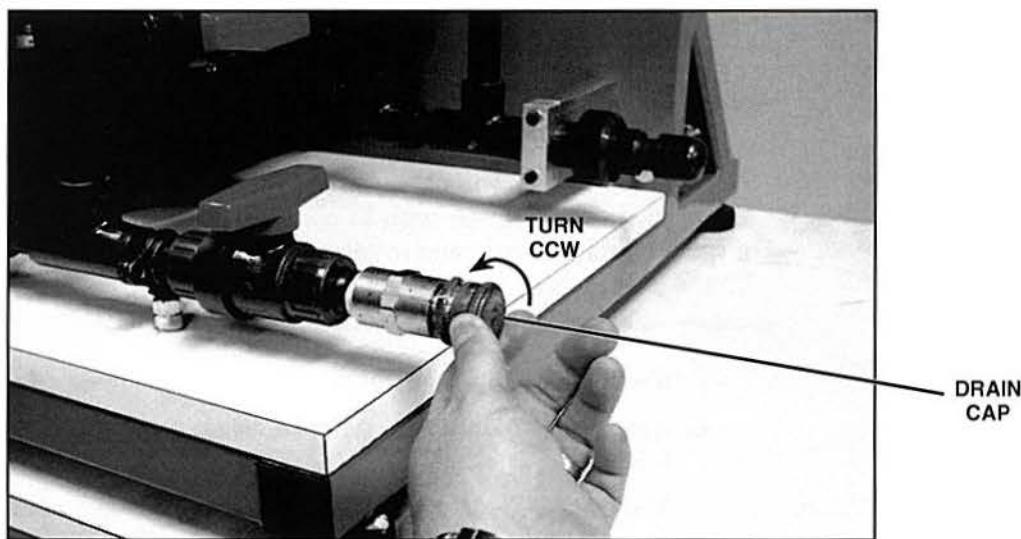

Figure 33. Remove Drain Cap
- B. Remove the drain cap from the drain connector, shown in figure 33, by turning it counterclockwise.